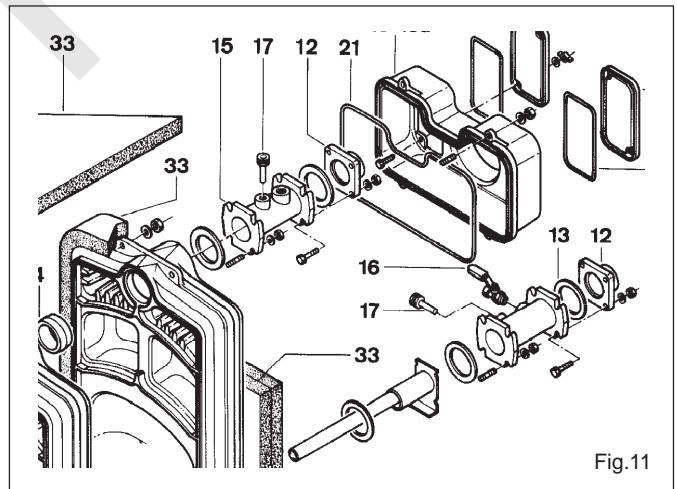

Fig.11
Drain valve (16, fig. 11)
- A 3/4" drain valve (16) is delivered with the "Flow and Return manifold" option (15, fig.11).
Welding flange (12, fig. 11)
- Weld the flanges to the system's pipework and then fasten them onto the boiler using gasket (13) with 4 HM bolts and washers.
- If the "Flow and Return manifold" option (15, fig.11) has been installed, the manifolds will have to be assembled first. Then fasten the flanges (12) onto the manifolds.
Connection manifolds (Optional Accessory) (15, fig. 11)